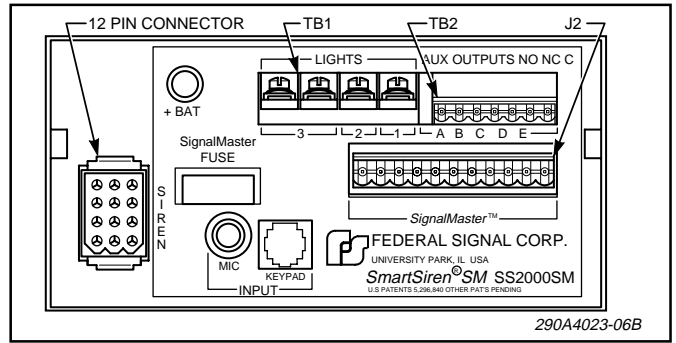

Figure 3-5. Rear View of SS2000SM.
The power cable included in the carton is equipped with a twelve-pin plug that mates with the connector on the rear of the Amplifier Unit (see figure 3-5). The cable is supplied with a 20-ampere in-line fuse. Additional wire (the same gauge or heavier) may be spliced to the leads as required. The various wires on the connector must be connected as follows:
5. See figures 3-5 and 3-10. Connect wires from the light bar or accessories to TB1-1 through TB1-3 or TB2-A through TB2-E as applicable. All wire connections for TB2 will be made with the right angle plug. (See face plate for relay designators.) Refer to the instructions packed with the light bar or accessory for proper wire gauge, current requirements, and any additional instructions. **DO NOT** exceed fuse ratings shown in table 3-1.